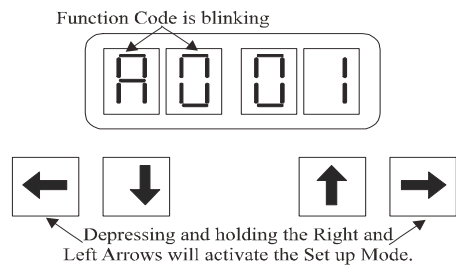

Figure MMC-343-12: Display with Set up Activated
- D Once the desired Function Code is visible on the Display, **depressing** and **holding** the Left and Right Arrow Push Buttons at the same time will activate Set Up. The left two Display pads will begin to blink, indicating that the value is ready to be changed. Refer to Figure MMC-343-12: Display with Set up Activated